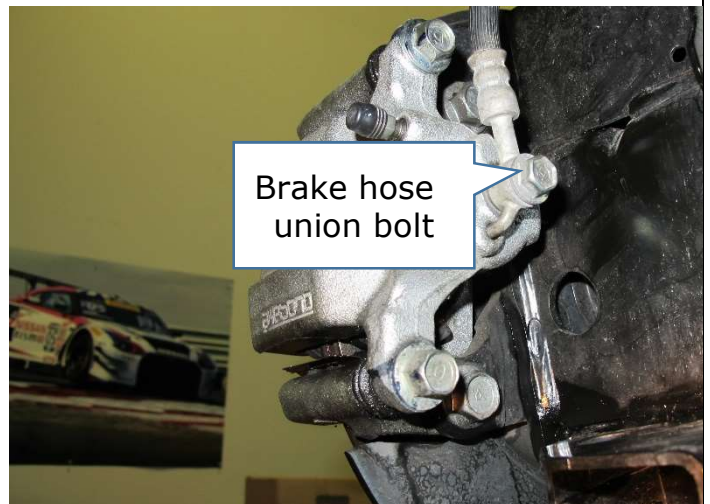

Figure 6
- Remove the brake caliper hose union bolt from the caliper (Figure 6)